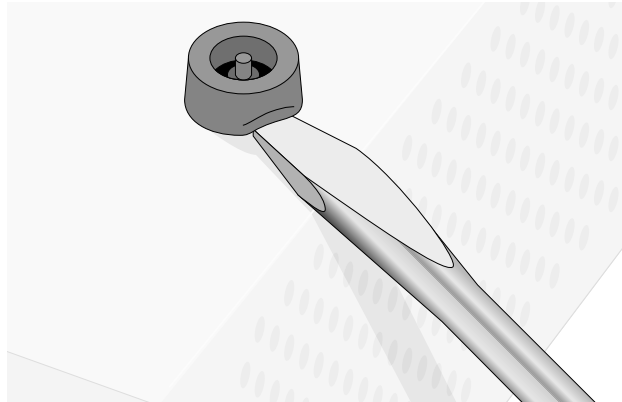

Figure 2-1 Removing the Feet
2. Remove the snap-on plastic feet, as shown in Figure 2-1.